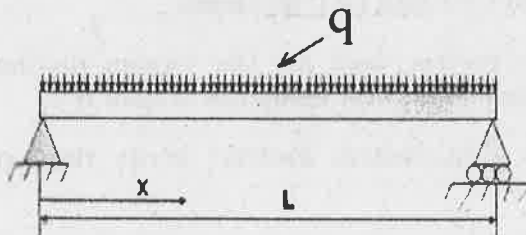

Fig. 12 (a)
12. (a) Determine the maximum deflection and slope for the simply supported beam subjected to uniformly supported load 'q' as shown in Fig. 12 (a).